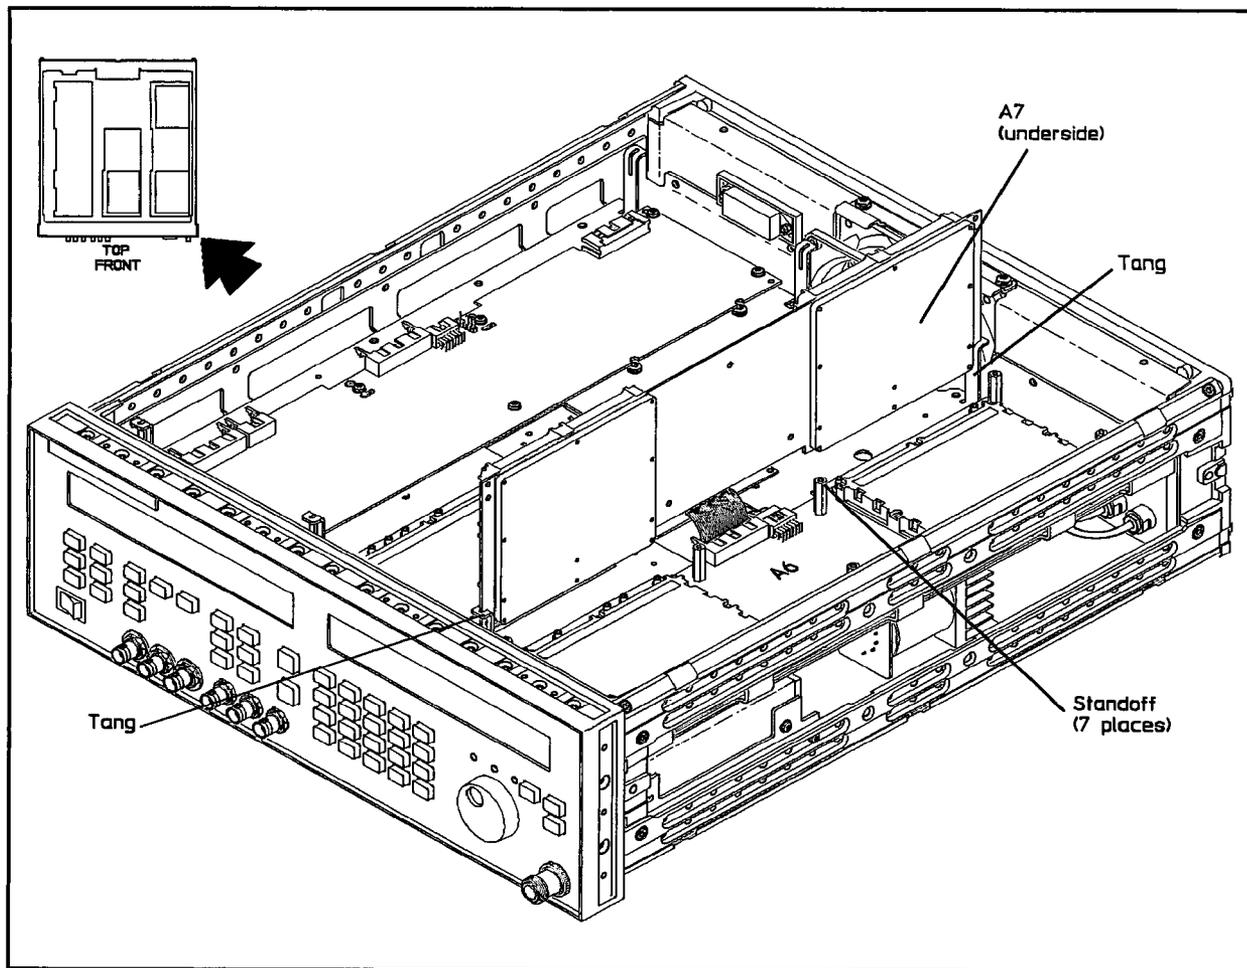

Figure 5-29. LO Synthesizer and Reference Board Service Position
4. Position the YO loop and offset synthesizer board assembly, A7, in the tangs as shown in Figure 5-29.